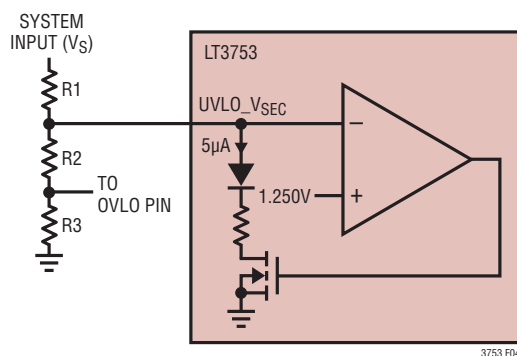

Figure 4. Programming Undervoltage Lockout (UVLO)
The LT3753 has an accurate 1.25V shutdown threshold at the UVLO\_VSEC pin. This threshold can be used in conjunction with an external resistor divider to define the falling undervoltage lockout threshold (UVLO(-)) for the converter's system input voltage (VS) (Figure 4). A pin hysteresis current of 5μA allows programming of the UVLO(+) threshold.